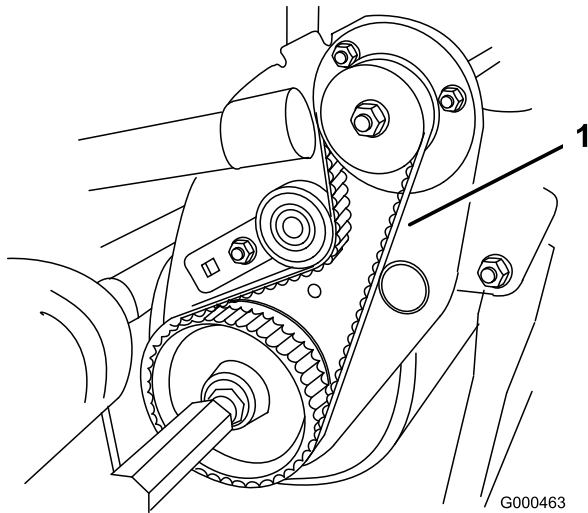

Figure 46
2. Check tension by depressing belt (Figure 46) at mid span of pulleys with 9 ± 1 lb of force. Belt should deflect $3/16$ to $5/16$ inch (4.8 to 7.9 mm). If the deflection is incorrect, proceed to next step.